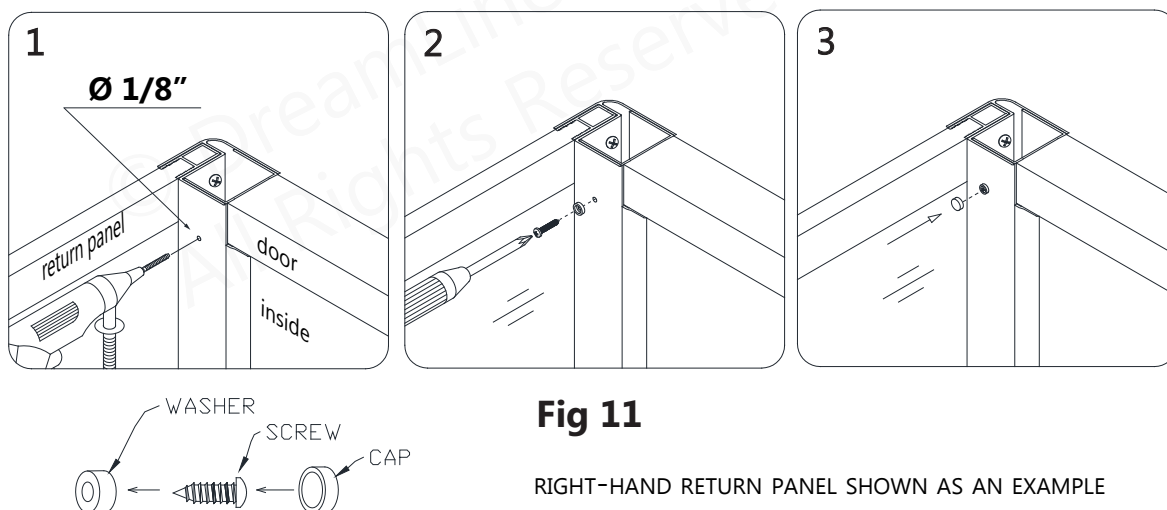

Fig 11
11. Drill holes into the aluminum profile of the **Door assembly (#02)** through the predrilled holes in the **Corner Profile (#10)** using an **Ø 1/8"** drill bit. Secure the Door assembly inside the **Corner Profile (#10)** using the **ST4.0 x 10 Pan head screw (#04)** with the raised white washers. Cover the exposed screw heads with the **Decorative Covers (#06)**. (**Fig 11**)